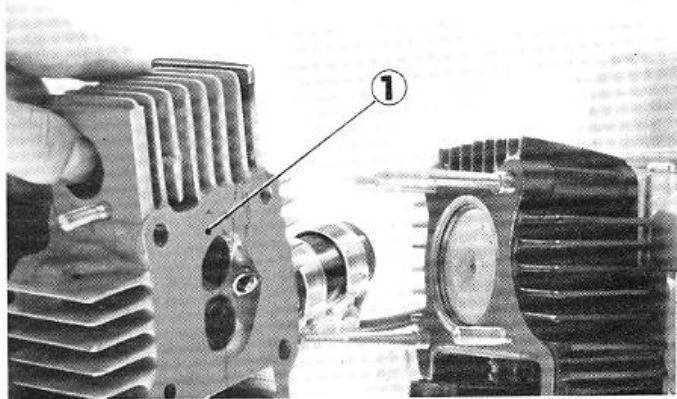

Fig. 2-8 ① Cylinder head
5. Unscrew four 6 mm nut, a 6 mm screw and then separate the cylinder head from the cylinder. (Fig. 2-8)